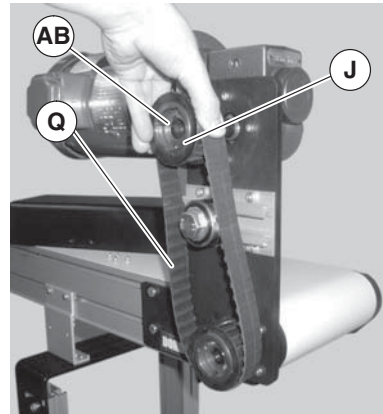

**Figure 15**
2. Loosen M10 shaft locking screw (Figure 15, item AA).